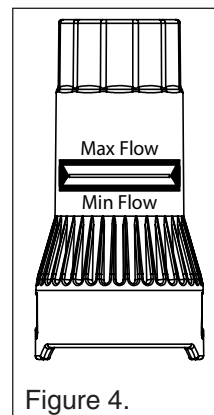

Figure 4.
3. Verify the white plunger (inside the flow gauge) is aligned within the box on the flow gauge. **See figure 4.**